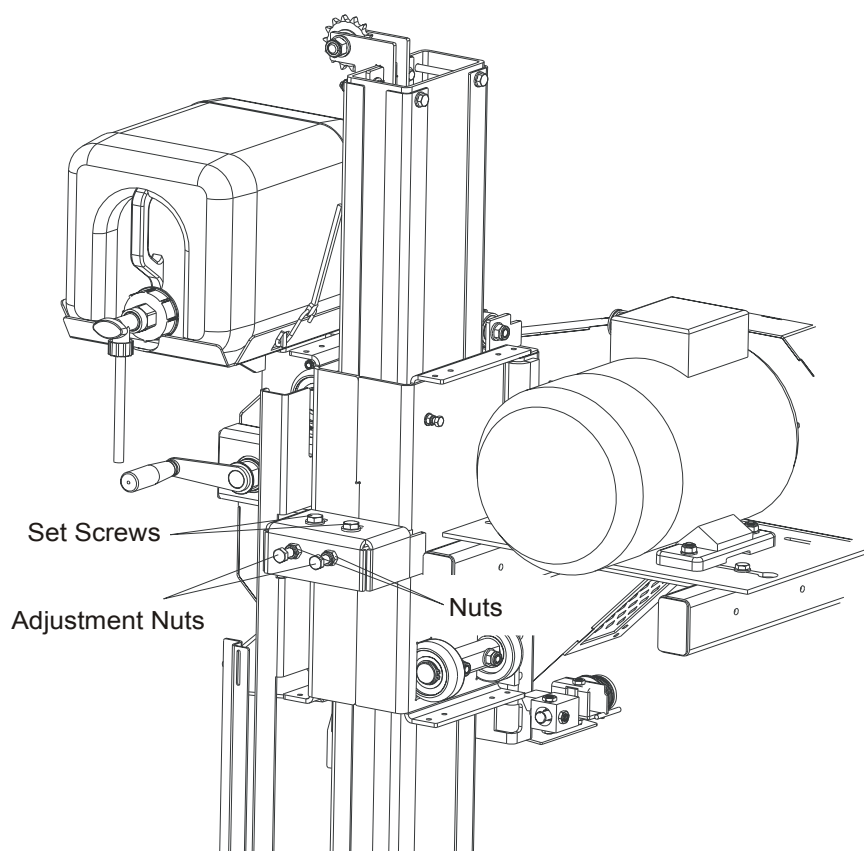

FIG. 5-11
1. Loosen the nuts on the adjustment bolts and the set screws shown in Figure 5-11.